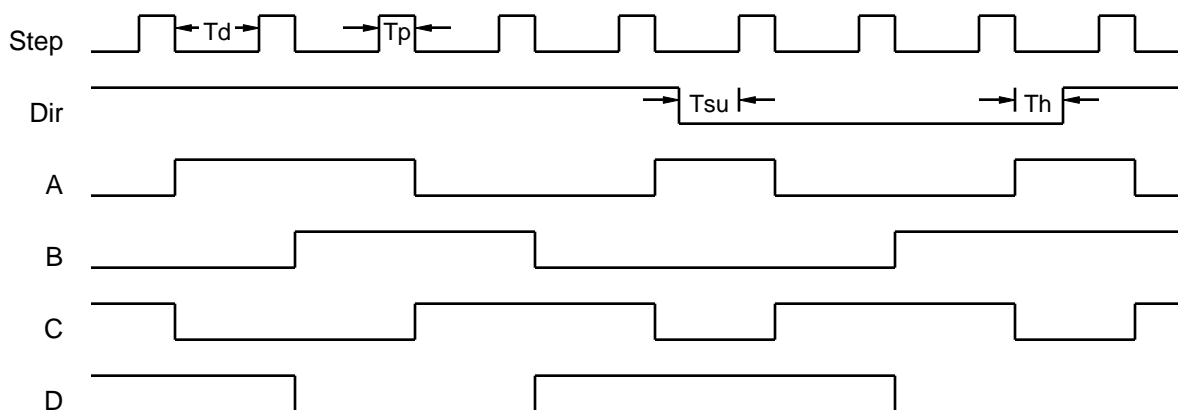

Figure 1. Circuit Timing
This pin determines the sequence that the outputs will be energized in. A high input on the Dir pin while the step input is pulsed will cause a single clockwise step, while a low level will cause a counter-clockwise step. (Refer to Figures 1 & 2).
4. Operation of the ELM313 is completely static, so there is no maximum time for any of these parameters. Each of the values is graphically displayed in Figure 1 on page 4.